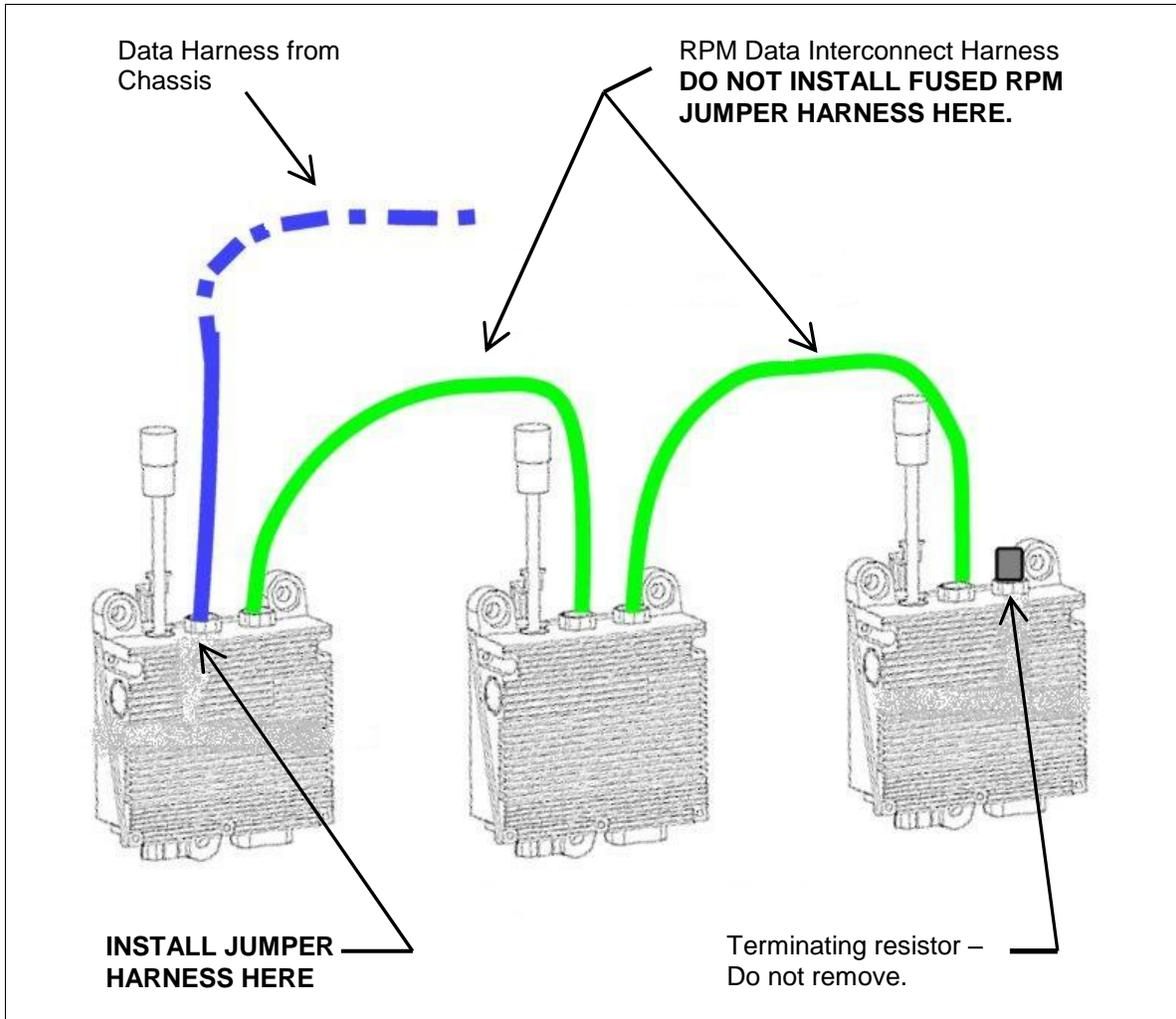
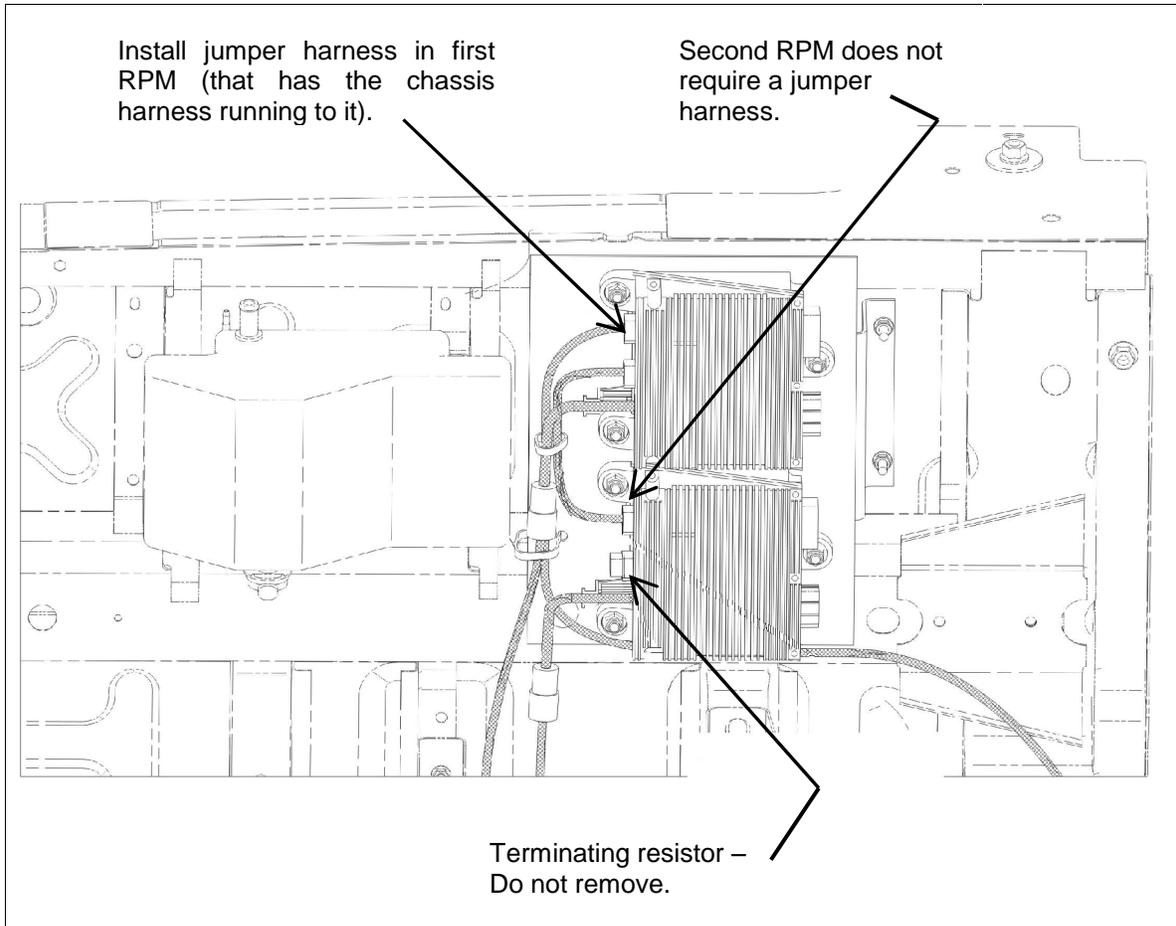

Figure 3.
Figure 5.
- c. Figures 3 and 4 were replaced; Figures 5, 6, 7, and 8 were added.
- If the vehicle is equipped with more than one module, identify the RPM that has the 6-cavity datalink connector connected directly to the chassis harness. Any RPM not directly connected to the chassis harness is connected through another RPM. Only install the fused RPM jumper harness on the first RPM. See Figure 3.